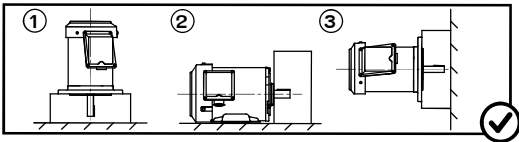

Figure 1 : How to install foot mounting and flange model
**REMARK :** -In case of necessary to install motor apart from Fig.1